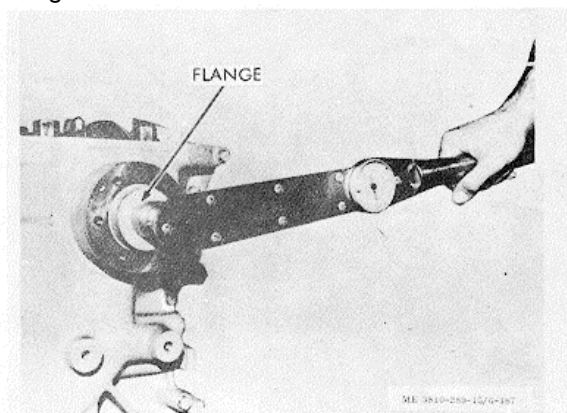

Figure 3-179. Crankshaft hub installation.
(1) Slide flange over crankshaft end; secure with large retainer washer and Nylon capscrew. Torque capscrew to 120/140 ft.-lbs., figure 3-179.